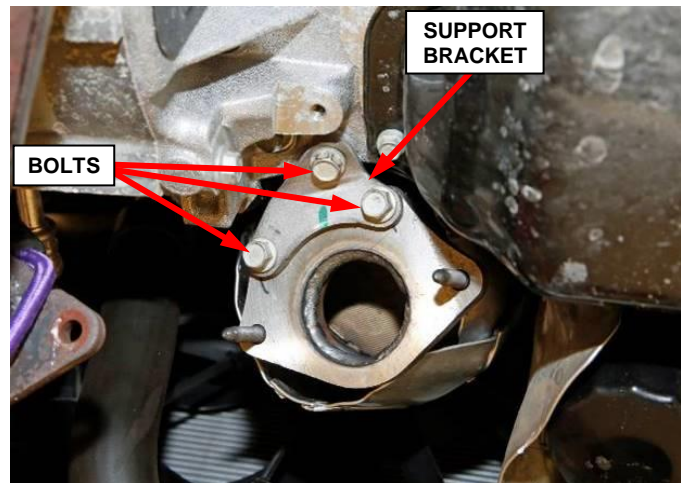

Figure 28 – Maniverter Outlet Bracket
55. Install the **NEW** catalytic converter lower support bracket to the engine oil pan using the bolt saved from the removal step. Do not tighten the bolt at this time (Figure 28).
56. Install two **NEW** bolts securing the lower support bracket to the catalytic converter. Tighten all three catalytic converter lower support bracket bolts to 20 N·m (15 ft. lbs.) (Figure 28).